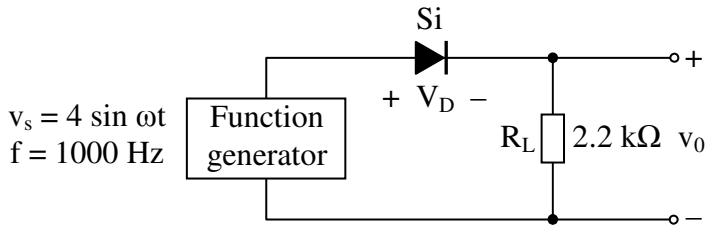
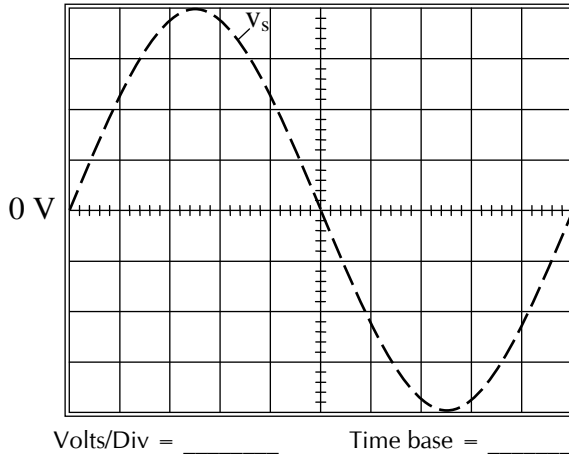
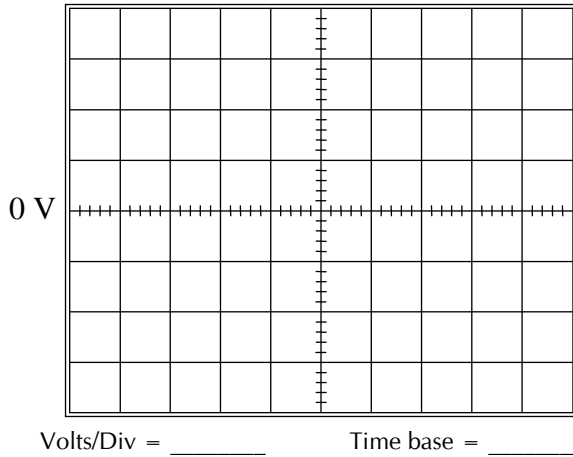

Fig. 3.3 Half-wave rectifier circuit
Fig. 3.4 Waveforms v_s and v_o (theoretical)
Fig. 3.6 Waveform v_0 (measured)
2. Construct the circuit of Fig. 3.3 using the chosen diode in Step 1. Record the measured value of the resistance. $R_{L\text{meas}} = \underline{\hspace{2cm}}$ k Ω .
4. The sinusoidal input (v_s) of Fig 3.3 has been plotted on the screen of Fig. 3.4. Determine the chosen vertical and horizontal sensitivities. Note that the horizontal axis is the 0 V line.
5. Using the threshold voltage of Step 1 determine the theoretical output voltage v_0 for Fig. 3.3 and sketch the waveform on Fig. 3.4 for one full cycle using the same sensitivities employed in Step 4. Indicate the maximum and minimum values on the output waveform.
- Reverse the diode of Fig 3.3 and sketch the output waveform obtained using the oscilloscope on Fig. 3.6. Be sure the coupling switch is in the DC position and the $v_0 = 0$ V line is preset using the GND position. Include the maximum and minimum voltage levels on the plot as determined using the chosen vertical sensitivity.
- Measure and calculate the DC level of the resulting waveform of Fig 3.6. Insert the proper sign for the polarity of VDC as defined by Fig 3.3. (measured) VDC = _____ V.